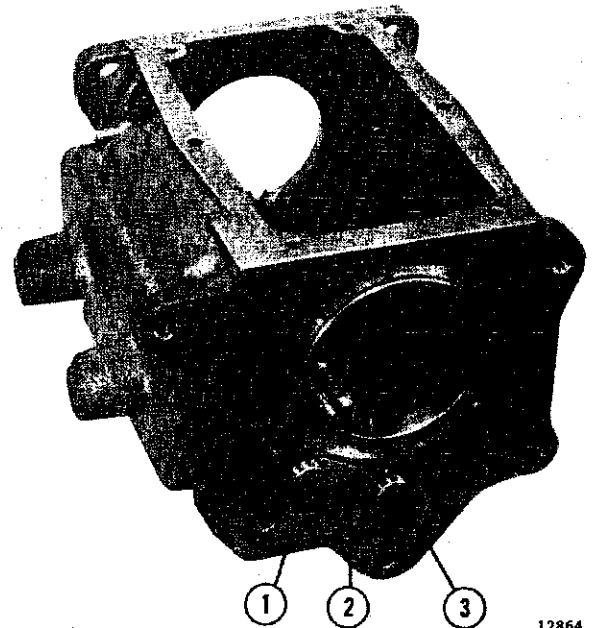

FIG. J-28—LOCKPLATE INSTALLATION
d. Locate the lockplate in the slots of the reverse idler shaft and countershaft. Tap the two shafts alternately until lockplate is tight against case. Refer to Fig. J-28.